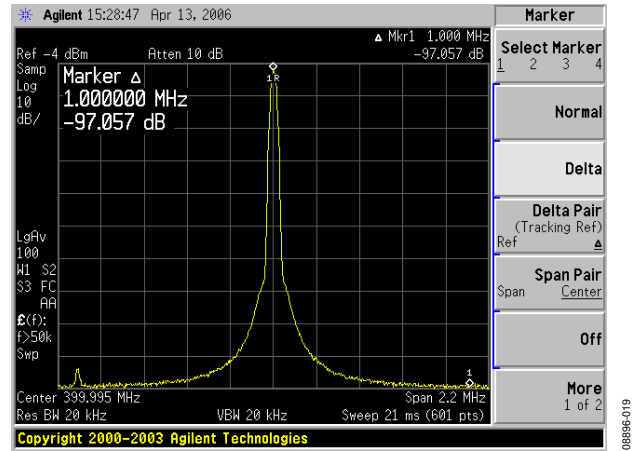
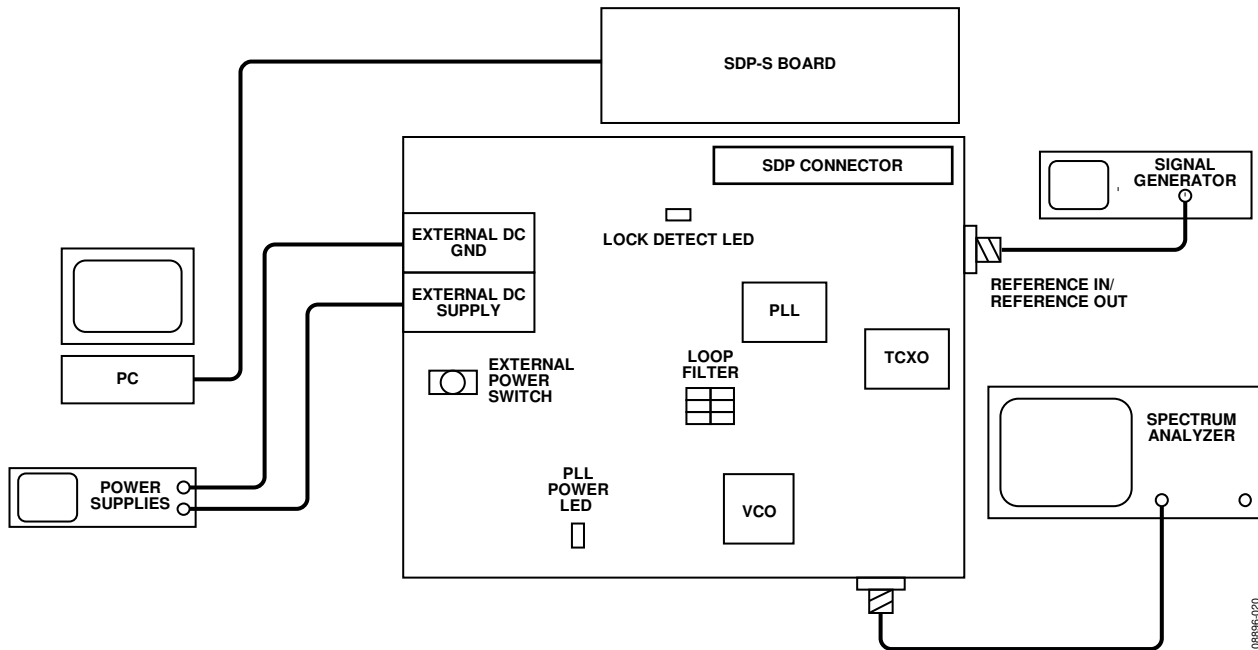

Figure 19. Spectrum Analyzer Display
Figure 20. Typical Evaluation Setup
8. In the software window, set the VCO center frequency (Figure 19 uses a 400 MHz VCO). Set the PFD frequency as defined in ADIsimPLL, and program the reference frequency to equal that supplied to Connector J11 (or the TCXO). See Figure 20 for the suggested setup.
9. Measure the output spectrum. Figure 19 shows a 400 MHz output.